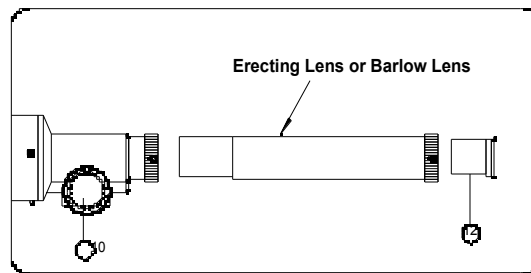

fig. 3
3. Also included with this telescope is an Erecting lens. An Erecting lens is used to view land-based object where the correct image orientation is important. The Erecting lens re-oriens the telescope image so that the image you see is properly oriented. Place your Erecting lens between the focusing tube and the eyepiece (fig. 3). It is not recommended to use the **Diagonal Mirror (11)** with the Erecting lens. The **Diagonal Mirror** will make the erected image appear to be “flipped” depending on the orientation of the diagonal mirror- relative to the telescope.